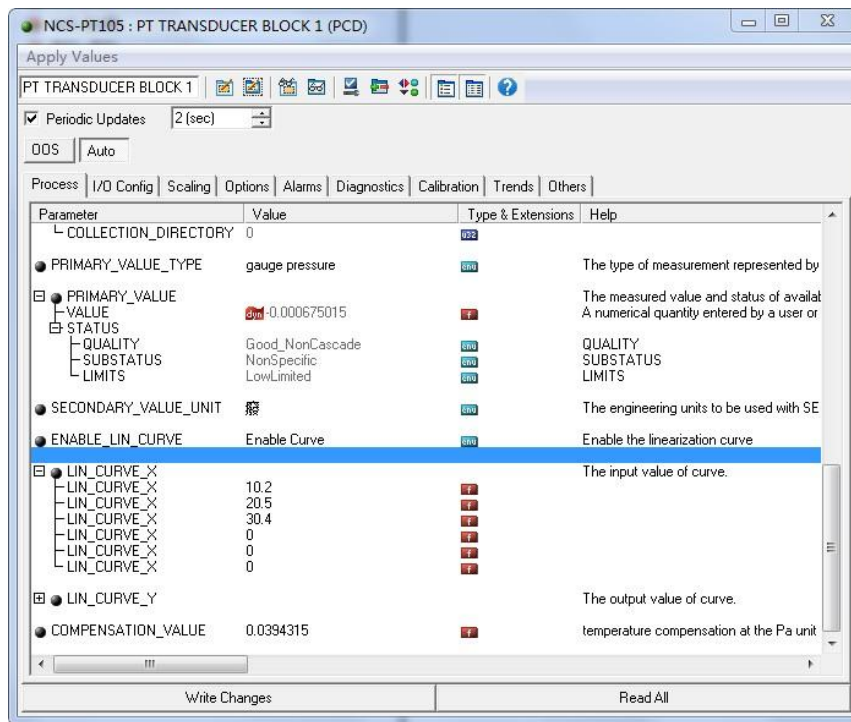

Figure 6.5 Configuration of the parameter LIN_CURVE_X
- 2) Enter the standard pressure through the ressor and open the corresponding transformation block on the configuration software, read the value of parameter PRIMARY_VALUE and write the value to the LIN_CURVE_X array. For example, write the 10.2,20.5,30.4 read in the LIN_CURVE_X array, as shown in Figure 6.5.Finish this calibration work.